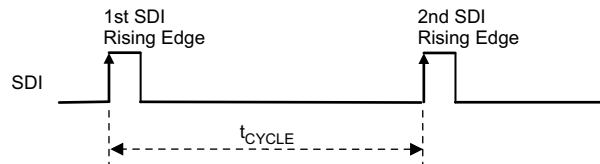
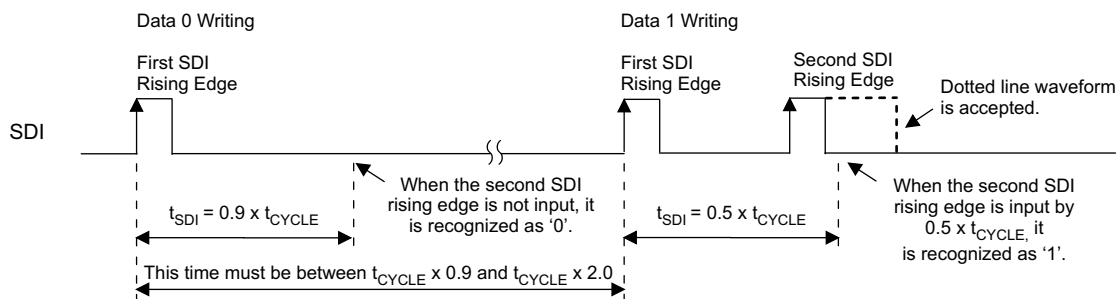

Figure 14. Data Transfer Rate (t_{CYCLE}) Measurement
Figure 15. Data '0' and '1' Write Operation
The TLC5973 measures the time between the first and second SDI rising edges either after the device is powered up or when the GS data latch sequence is executed (as described in the GS Data Latch Sequence \(GSLAT\) section) and the time is internally stored as t_{CYCLE} . t_{CYCLE} serves as a base time used to recognize one complete data write operation, a 48-bit data write operation, and a GS data write operation to the GS data latch. t_{CYCLE} can be set between 0.33 μs and 10 μs ($f_{\text{CLK(SDI)}} = 100 \text{ kHz to } 3000 \text{ kHz}$). In this sequence, two instances of data '0' are written to the LSB side of the 48-bit shift register. Figure 14 shows the t_{CYCLE} measurement timing.
When the second SDI rising edge is not input before $0.9 \times t_{\text{CYCLE}}$ elapses from the first SDI rising edge input, the data are recognized as '0'. When the second SDI rising edge is input before 50% of t_{CYCLE} elapses from the first SDI rising edge input, the data are recognized as '1'. This write sequence must be repeated 46 times after the t_{CYCLE} measurement sequence in order to send the write command to the higher 10-bit (3AAh) and 36-bit GS data. Figure 15 shows the data '0' and '1' write timing.
2. Write the 48-bit data packet (MSB-first) for the first device using t_{CYCLE} and the data write sequences illustrated in Figure 14 and Figure 15. The first 12 bits of the 48-bit data packet are used as the write command. The write command must be 3AAh (001110101010b); otherwise, the 36-bit GS data in the 48-bit shift register are not copied to the 36-bit GS data latch.